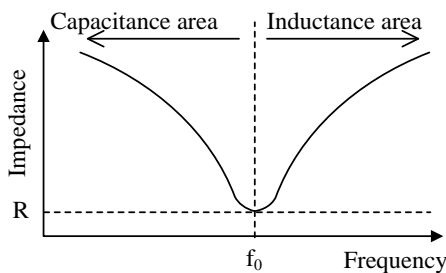

Figure 8-2. Impedance of Resonant Circuit
When the frequency,  $f$ , changes, the impedance of resonant circuit will change as shown in Figure 8-2.
When  $2\pi fL = 1/2\pi fC$ ,  $\dot{Z}$  of Equation (2) becomes the minimum value,  $R$  (see Figure 8-2). In the case,  $\omega$  is calculated by Equation (3).